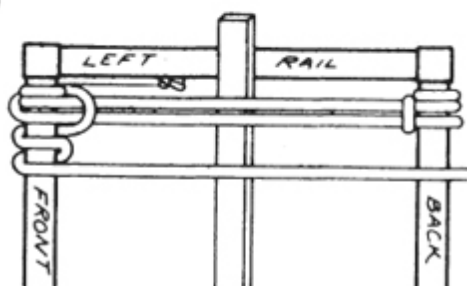
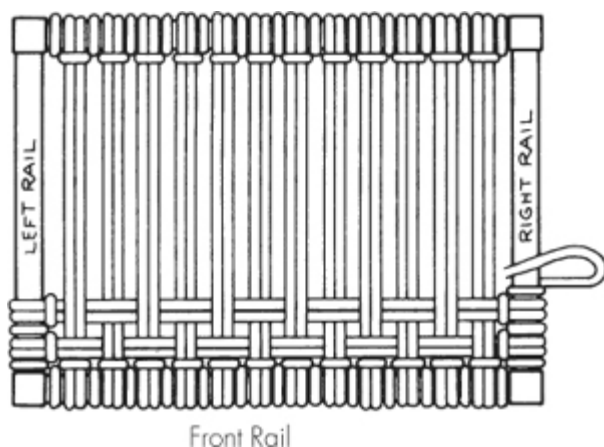

fig. 20
fig. 21
3. Put the tension stick across the center of the seat. See Step A in Figure 20.
4. Start the warp, the cords that run from front to back. Knot one end of the cord and tack it to the inside of the left rail. Bring the coiled end under the front rail. See Step A Figure 20.
5. Wrap the cord around the front rail once and bring the coiled end over the tension stick to the back rail. See Step A in Figure 20.
6. Make one wrap around the back rail and thread the end up between the left rail and the first warp cord. See Step B in Figure 20.
7. Bring the end over the warp cord and back down and under the back rail. This movement should form a loop over the warp cord. Now bring the end over the back rail and thread it through the loop. See Step C in Figure 20.
8. Bring the end over the tension stick to the front rail. Go over the front rail. Be sure to keep the warp cords even and taut. There should be about the same amount of tension on each cord. Refer to Steps C and D in Figure 20.
9. Thread the end up between the left rail and the first warp cord and make a loop over both warp cords. See Step D in Figure 20.
10. Bring the end down under the front rail and make another wrap around it. Repeat the process. This should give you two cords through each loop and a short wrap between each pair of warp cords. If you have to add new cord lengths, make sure that the knots are on the inside of the rails so that they will not show. Refer to Step D in Figure 20.
14. Bring the coiled end under the right rail and wrap the cord around the rail once. Refer to A in Figure 20 and to Figure 21.